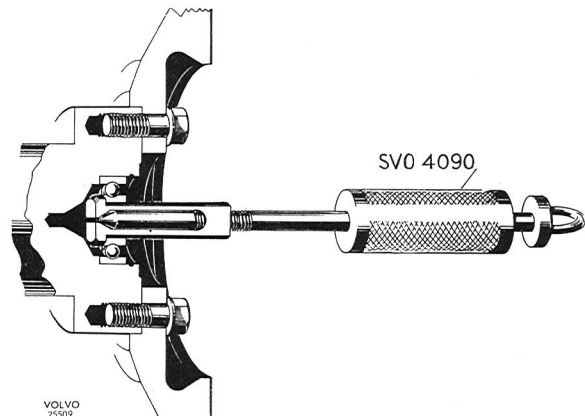

Fig. 4-8. Pilot bearing removal
1. The bearing is pulled out with puller 4090, see Fig. 4-8. The bearing is cleaned in gasoline.